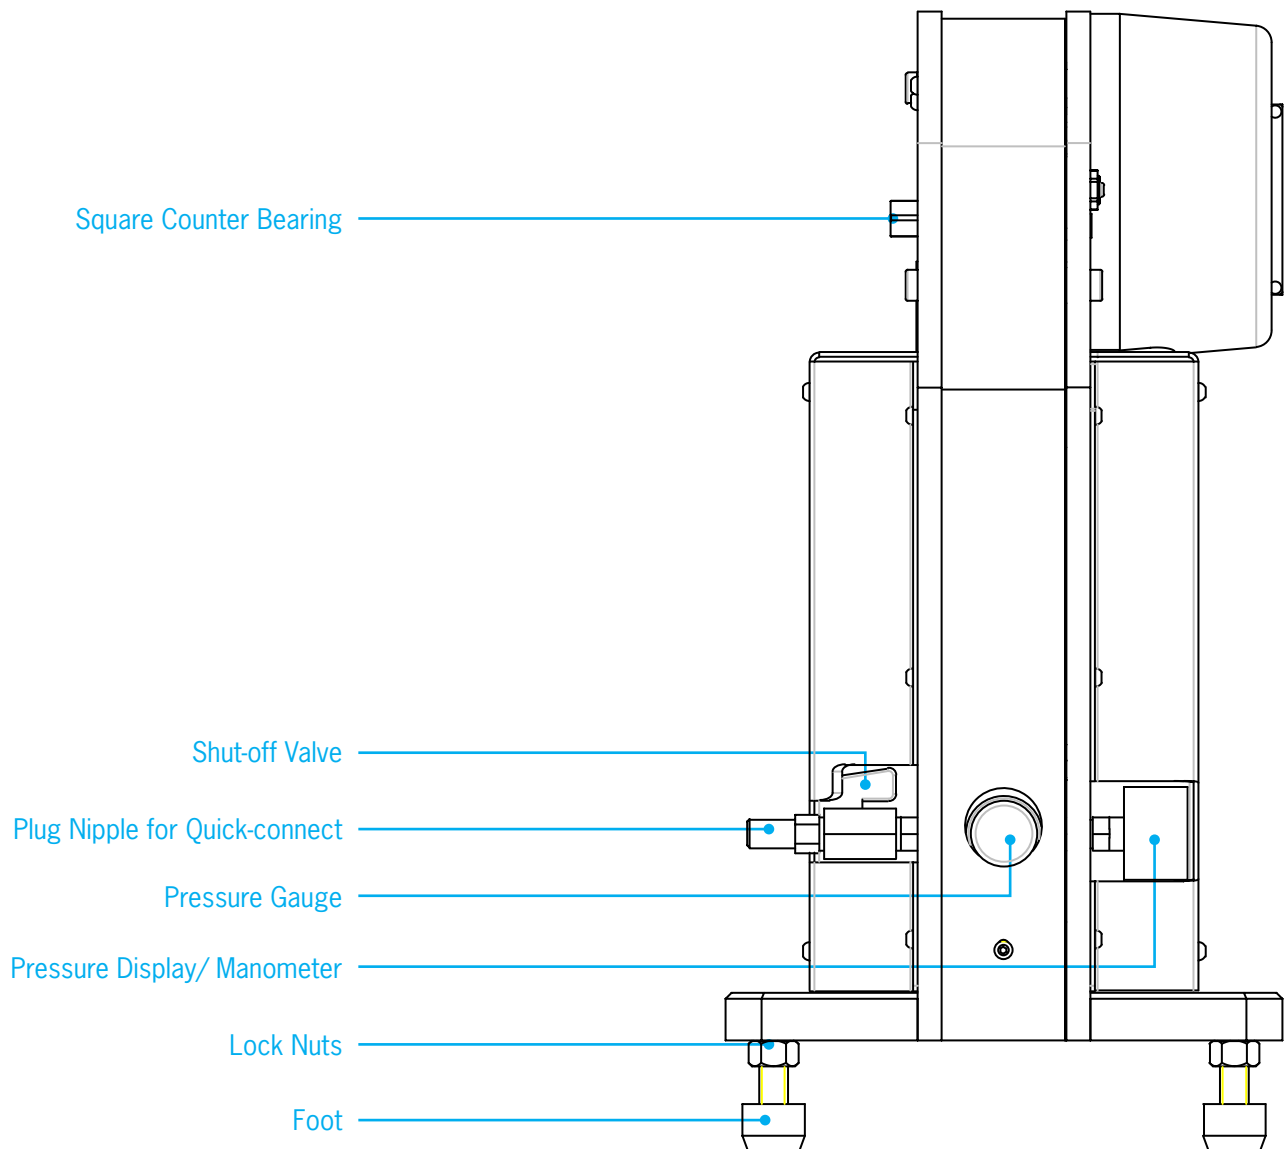

Fig. 2
- Machine is in delivery state, open shut-off valve, if necessary (Fig. 2) (when the shut-off valve is open, the hand lever of the valve will be in a horizontal position)
- Close the shut-off valve, disconnect the air pressure, then open the shut-off valve (Fig. 2) (Note: when the shut-off valve is open, the hand lever is in a horizontal position)
- Place a wrench SW 12 onto the square counter bearing (Fig. 2) to move the shaft of the machine lower in the direction of the arrows till the holes of the upper adapter line up with the connecting rod